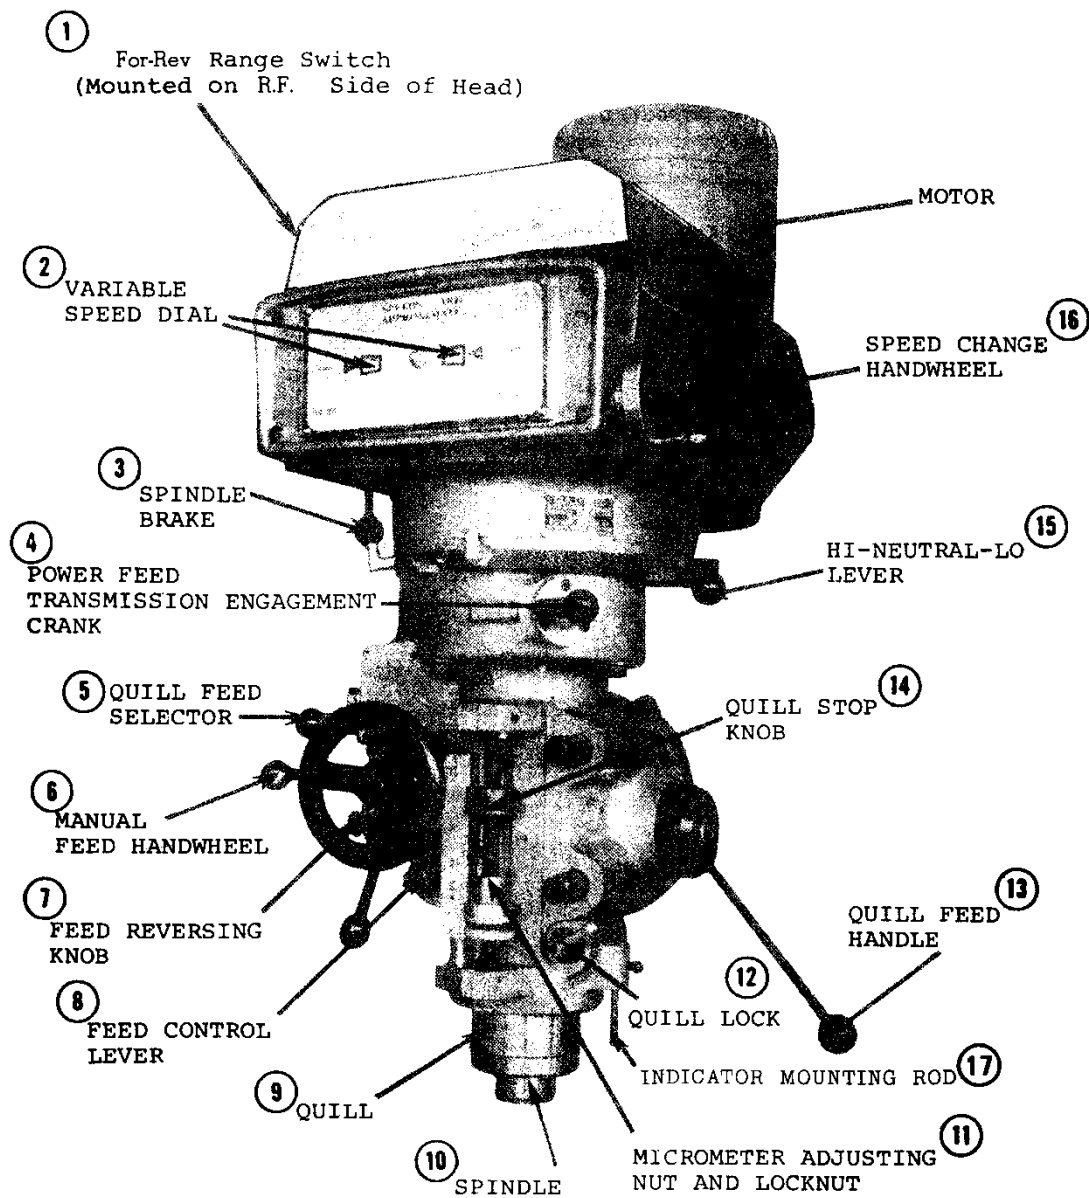
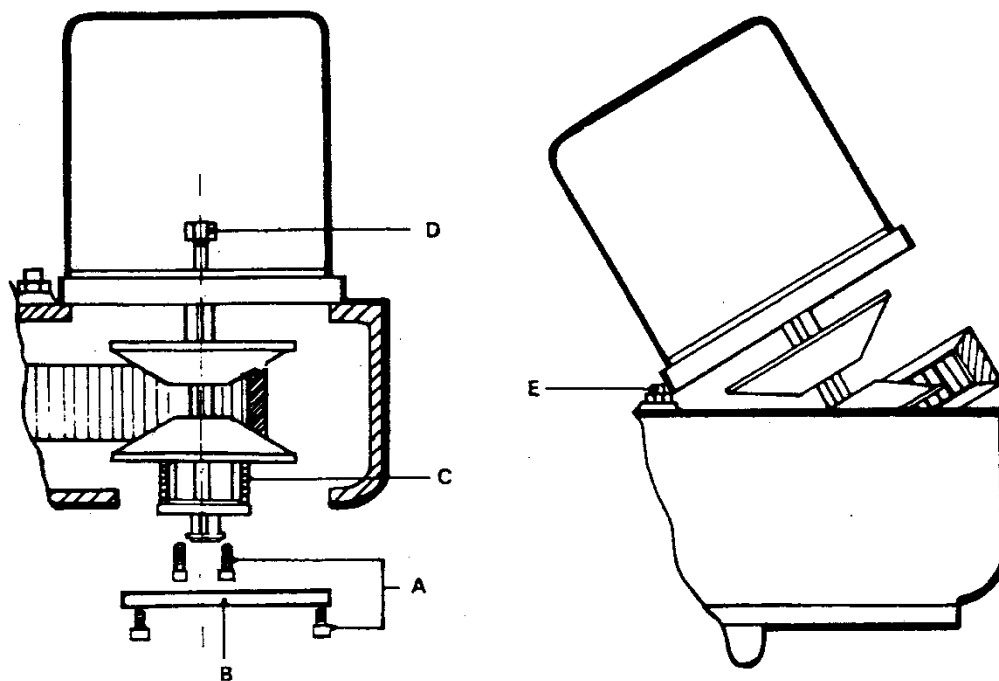
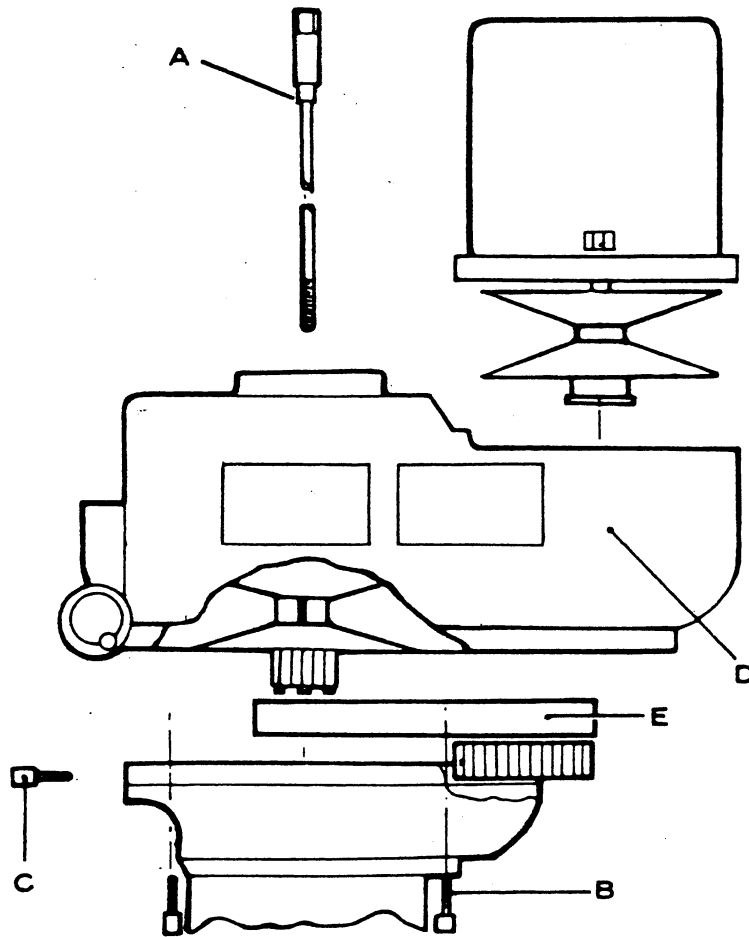

Figure 9. Milling Head (Variable Speed)
Figure 10. Removing the Motor (Side View)
Figure 12. Removing Timing Belt
SPEED CHANGE HANDWHEEL (16, Figure 9) :
SPINDLE BRAKE (3. Figure 9)
FORWARD-REVERSE SWITCH (#5. Fig. 9)
HI-NEUTRAL-LO LEVER (#15. Fig. 9)
QUILL FEED SELECTOR (#5. Fig. 9)
FEED REVERSE KNOB (#7. Fig. 9)
MANUAL FEED HANDWHEEL (#6. Fig. 9)
Feed reversing knob should be in neutral position and feed control lever (#8. Fig. 9) engaged. Clockwise rotation of handwheel moves quill down. Manual Feed Handwheel and quill feed handwheel may be disengaged by moving them outward approximately 1/8".
FEED CONTROL LEVER (#8. Fig. 9):
QUILL FEED HANDLE (#13. Fig. 9)
QUILL STOP KNOB (#14. Fig. 9)
MICROMETER NUT (#11. Fig. 9)
QUILL LOCK (#10. Fig. 9)
Wear on the vari-drive belt will cause a slight change in the speeds to that shown in windows (#23, page 33) on the dial. This can be corrected as follows. Crank the speed change handwheel (#16, Figure 9) snugly against the Highspeed stop. (This will be near the 4200 reading on the dial.) Use a tachometer to determine the spindle speed, then turn the pivot stud (#16 page 35), after loosening the jam nut (# 17, page 35) until the spindle speed registers 4200 on the tachometer: tighten jam nut.
REMOVING THE MOTOR (See Fig. 10)
2. Remove the cover (#54, page 33) (B. Figure 10) at the lower end of the motor shaft. Use two cover screws (#55, page 33)(A) to fasten the spring (#44, page 35) (C) on the lower end of the motor shaft to the lower motor vari-drive pulley(#43, page 35). This will reduce the hazard of personal that is always present when a heavy spring is under compression. When the pulley, spring retainer (#45, page 35) and spring are securely fastened as a single unit, crank the speed change handwheel (#16, Figure 9) to top speed position.
3. Now remove the screws (#9, page 35) (D) that fasten the motor to the belt housing. The motor should be lifted slightly and pulled firmly away from the spindle and toward the rear of the belt housing. This will pull the vari-drive belt (#27, page 35) deeply into the spindle pulley (#25, page 35) providing the slack needed to shift the belt over the motor pulley (#43, page 35).
4. Now lift the motor high enough to rest the motor base GENTLY on the adjusting screw (#16, page 35) (E) seen directly in front of the motor range. The belt can now be slipped over the lower pulley and the motor removed from the housing.
CHANGING TIMING BELT (Figure 12)
Complete the operation for removing the motor. Then put the Hi-Neutral-Lo lever (#15, Figure 9) in the Lo position, remove the drawbar (#14, page 35)(A, Figure 12) and lower the spindle.